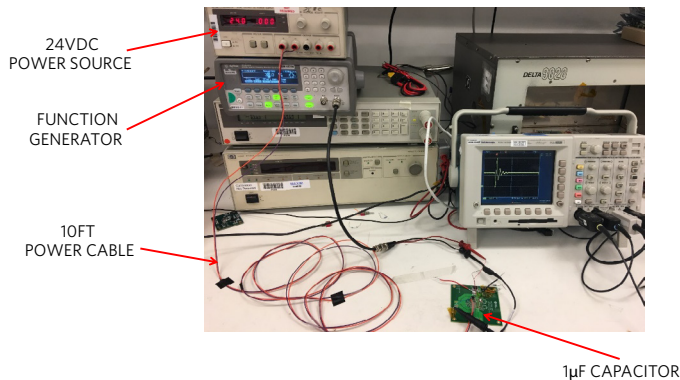

Figure 6. Cable ringing test setup.
**Figures 6 and 7** show a lab setup to demonstrate cable ringing. A 24VDC power source is used to represent a 24VDC battery from a truck. A 10-foot cable connects the power source to a 1μF ceramic capacitor to emulate an input capacitance of a fleet-tracking device.